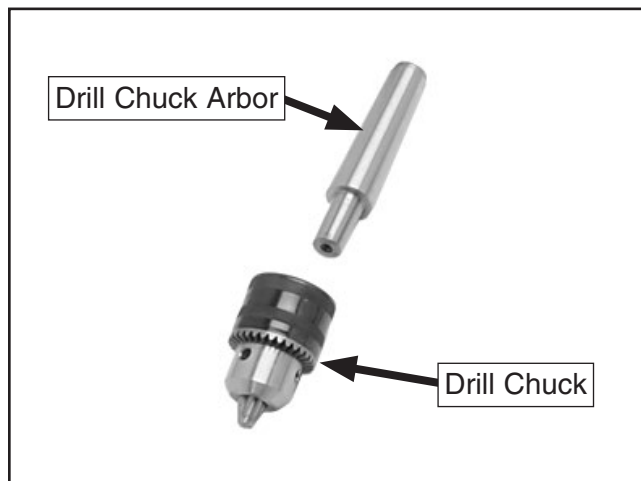

Figure 40. Drill chuck and arbor.
3. Insert the drill chuck arbor into the drill chuck (see **Figure 40**), then insert the assembly into the quill until the taper is firmly seated. The matching tapers hold the arbor.